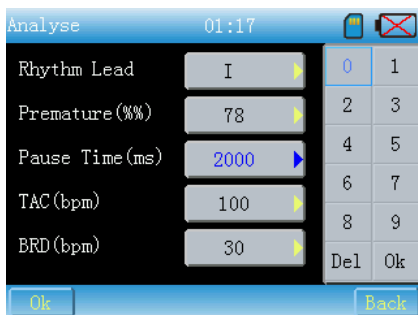

Fig. 7-22
(2) Pause Time : click corresponding button to call up the interface as Fig.7-22.